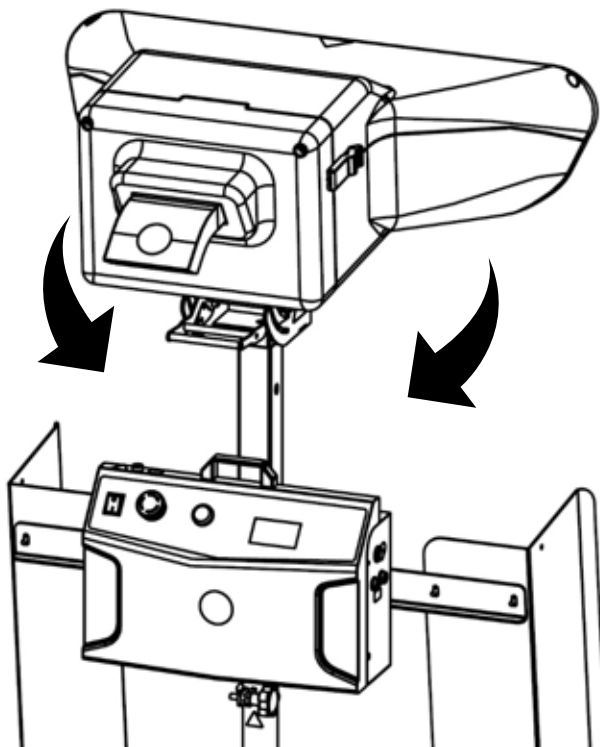

Figure 10 Output Chute Position
2. Rotate the **Dispenser Head** to the preferred Output Chute position (refer to Figure 10).